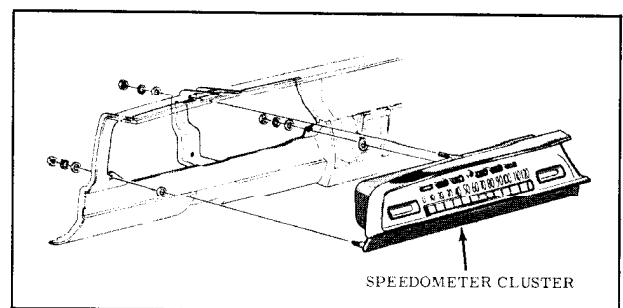

Fig. 15-3 Instrument Cluster Assembly
3. Remove the 3 cluster to instrument panel attaching screws. (Fig. 15-3)